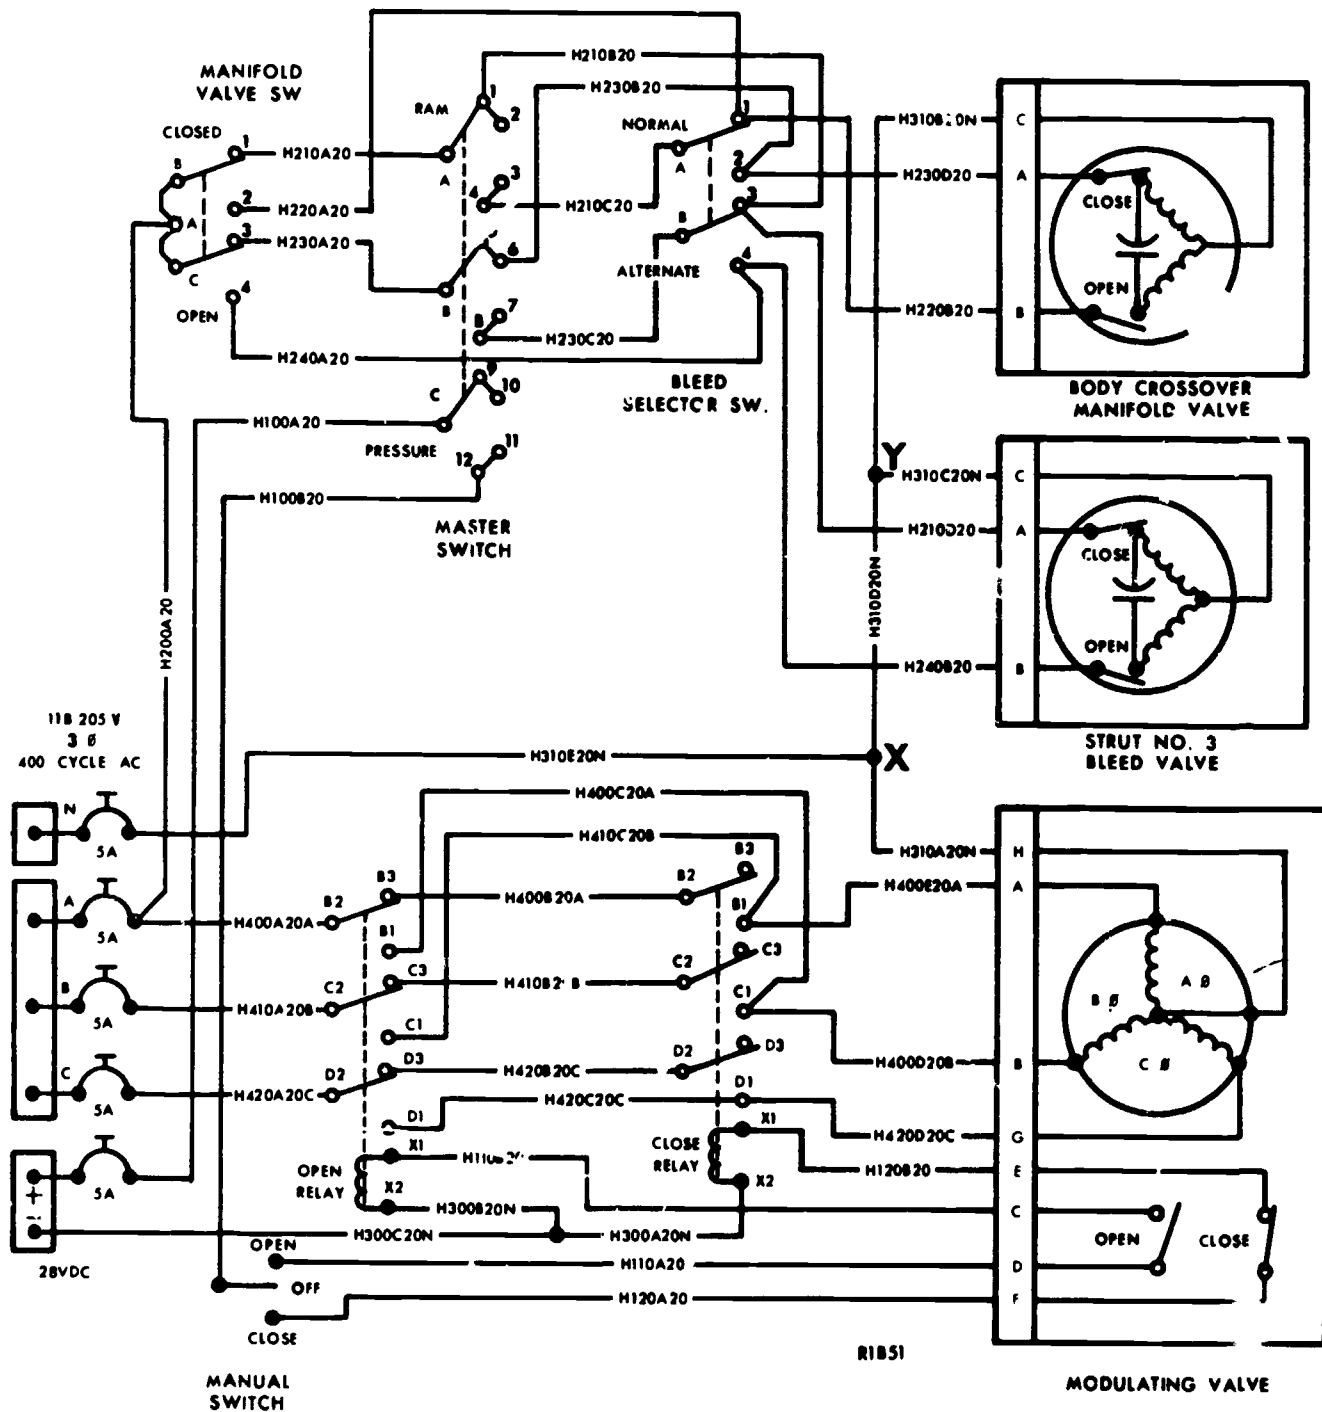

Figure 6a.
21. If you have traced this exercise correctly, transfer what you have traced to figure 6a in Part 3 of this workbook.